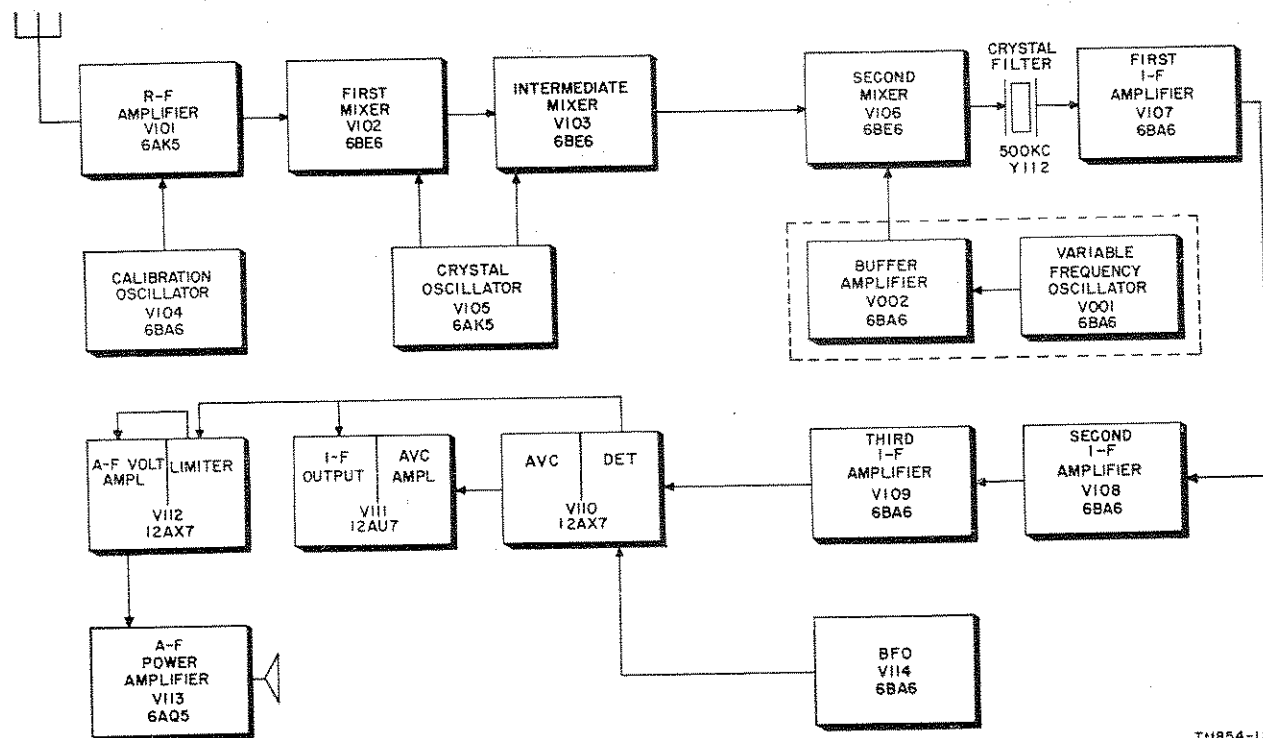

Figure 11. Radio Receiver R-388/URR, over-all block diagram.
then is fed through a crystal filtering network, Y112. From then on the equipment follows a conventional pattern, with three stages of i-f amplification (V107, V108, and V109); an avc detector section, V110; beat-frequency oscillator V114; avc amplifier and i-f output V111; noise limited and a-f voltage amplifier V112; and audio power amplifier V113 sections (fig. 11).
d. The only exceptions to the procedures as outlined above are tuning steps 1, 2, and 3. Tuning step 1 uses an intermediate mixer, V103, between the first and second mixers as described above. The 4-mc crystal selected by switch S109 (fig. 42) will produce a crystal oscillator (V105) output signal of 12 mc (third harmonic) for the first mixer. The first mixer, V102, output to the intermediate mixer, V103, then will be in the order of 11.5 mc to 10.5 mc. At the same time, by means of split plate-tank-coil tuning, crystal oscillator V105 also will feed to the intermediate mixer, an 8-mc signal (second harmonic of 4 mc) which, when beat with the 11.5-mc to 10.5-mc input signal will cause the intermediate mixer to produce a signal in the 3.5- to 2.5-mc range. This signal then is applied to the second mixer, V106, where it is beat with the 3- to 2-mc output of the vfo (variable-frequency oscillator) to obtain an intermediate frequency of 500 kc (fig. 11). Since bands 2 and 3 correspond to the input frequencies of the second mixer (2.5- to 1.5- and 3.5- to 2.5-mc), incoming signals on these bands are fed directly from the r-f amplifier to the second mixer, V106.
The h-f oscillator, V105, type 6AK5, is a modified Pierce oscillator using 10 frequency-controlling crystals, each so selected that when its fundamental or harmonic signal is beat with the signal voltage in the first mixer, V102, it will produce in the mixer a usable output frequency between 2.5 and 1.5 mc or 3.5 and 2.5 mc on all tuning steps except steps 1, 2, and 3. On tuning step 1, the h-f oscillator produces a 12-mc signal for introduction to the first mixer, V102, and an 8-mc signal for introduction to the intermediate mixer, V103 (figs. 11 and 12). The h-f oscillator, V105, is not used in tuning steps 2 and 3, the signal on these steps being fed directly from the r-f amplifier to the second mixer, V106, through the variable i-f coils.